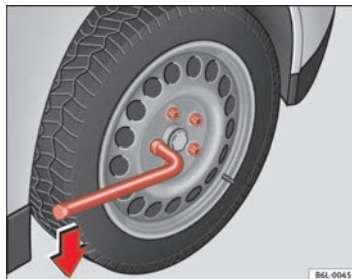

Fig. 124 Changing the wheel: loosen the wheel bolts
- Grasp the box spanner by the end turn it about one full turn to the **left** ⇒ fig. 124.